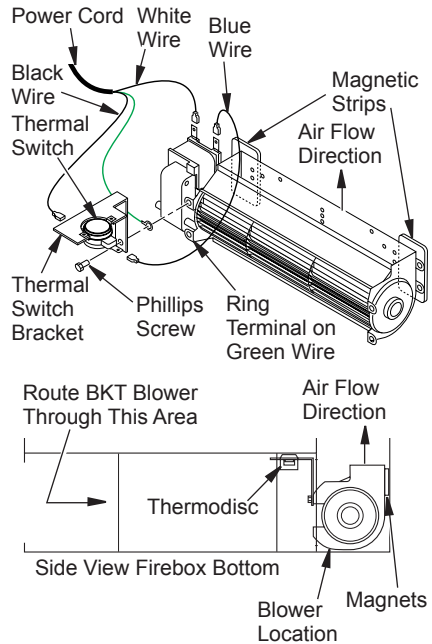

Figure 29 - Blower Model BKT
- Place the green ground wire with ring terminal between the bottom hole on the thermal switch bracket and the top ear hole on the blower assembly. Insert the phillips screw into all three pieces and tighten securely (see Figure 29, page 19).
3. Place the blower against the lower rear wall of the firebox outer wrapper with the exhaust port directed upward and the thermodisc positioned up near the fireplace bottom. The thermodisc must be oriented near the fireplace bottom as shown in Figure 29, in order to sense temperature and properly operate. The blower will be held in position against the back wall by the magnets incorporated onto the blower housing (see Figure 29).